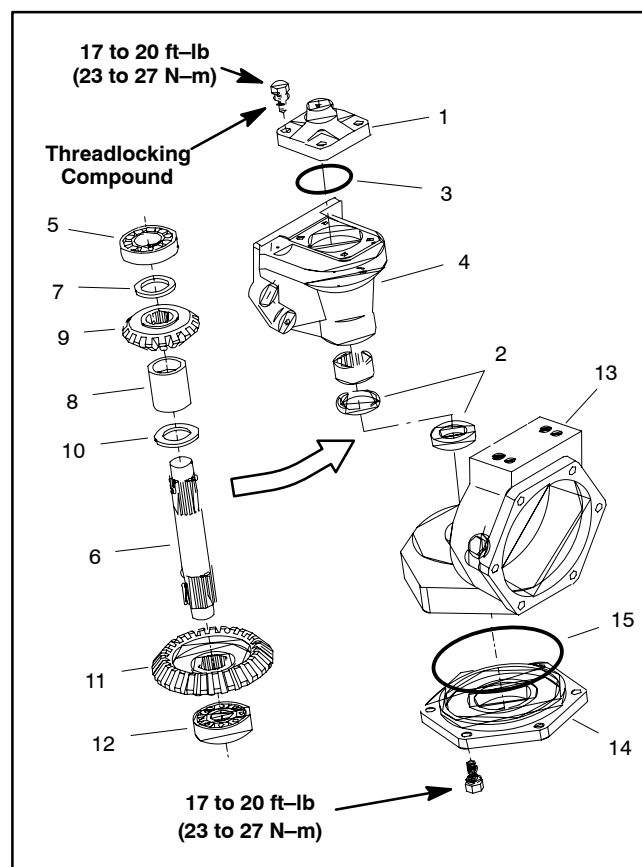

Figure 6
5. Remove the knuckle pin mounting screws and the knuckle pin. Remove the gasket and any remaining gasket material from either mating surface (Fig. 6).
10. Remove and discard bevel gear shaft seals from bevel gear case and axle case (Fig. 6).